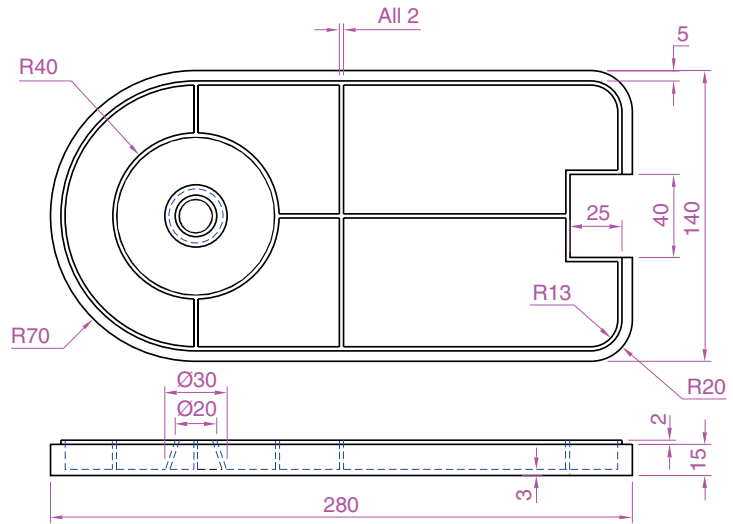
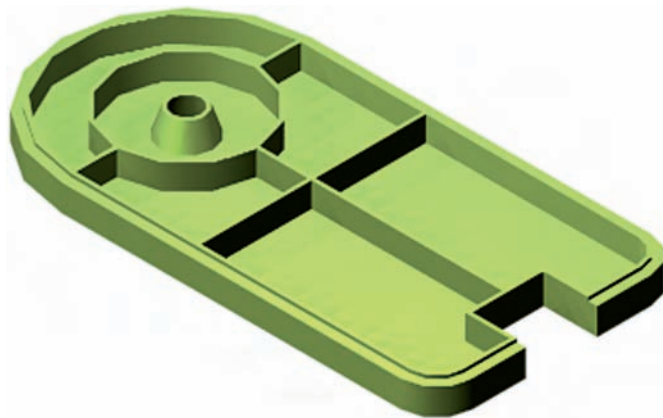

Fig. 16.33 Exercise 2 – orthographic projection
Fig. 16.34 Exercise 2
2. Working to the sizes given in Fig. 16.33, construct a 3D model drawing of the drip tray from an engine. Add lighting and a suitable material, place the model in an isometric view and render (Fig. 16.34).